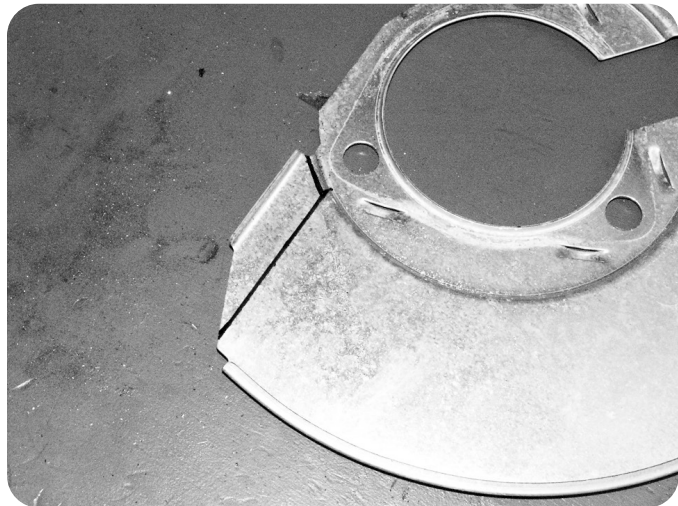

Figure 9
25. The brake dust shield needs to be trimmed. Measure in from the lower vertical edge (opposite the ABS sensor location)  $\frac{3}{4}$ " and make a vertical cut line along the entire flat section **Figure 9**. Cut the mark section off of the brake dust shield.